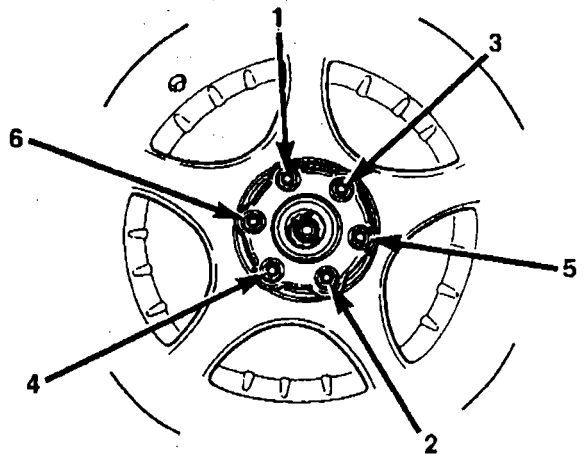

Figure 48
51. Install both rear wheel and tire assemblies onto vehicle. Tighten lug nuts to 90 ft. lbs. (122 N·m) and tighten in the order shown in Figure 48.